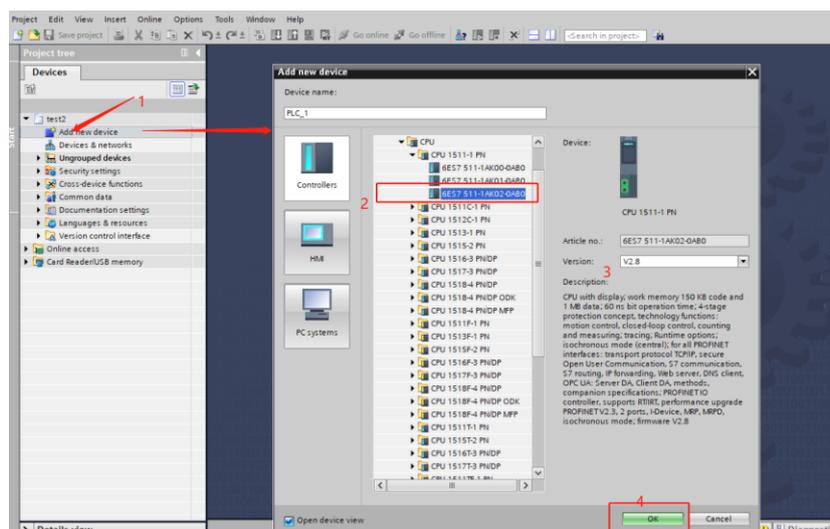

Figure 2 CPU model selection
2. Double click "Add new device" to select controller model (S7-1500) and CPU version type. (Users can choose according to the actual CPU model) As shown in Figure 2.